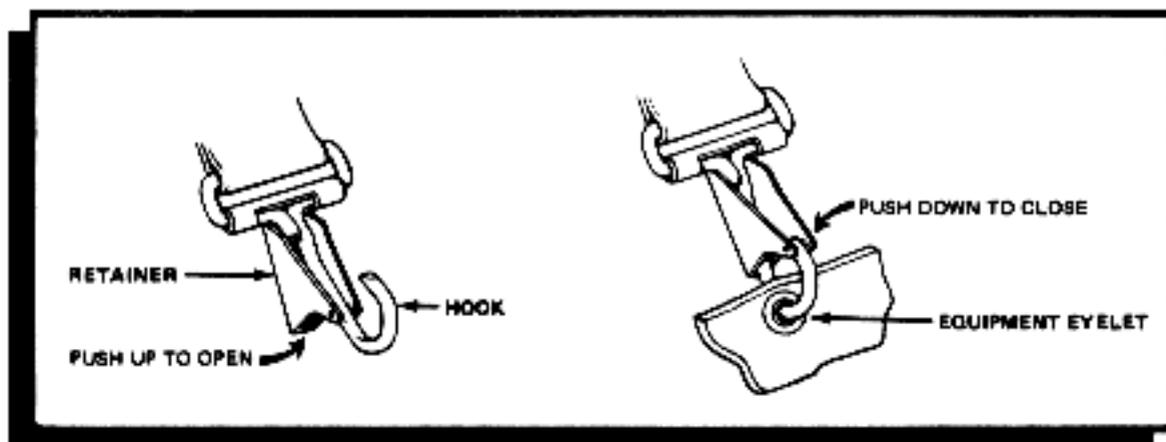

Figure 4-14. Snap hooks.
- Open all suspender snap hooks by pushing the hooks up and out of the retainers (figure 4-14).